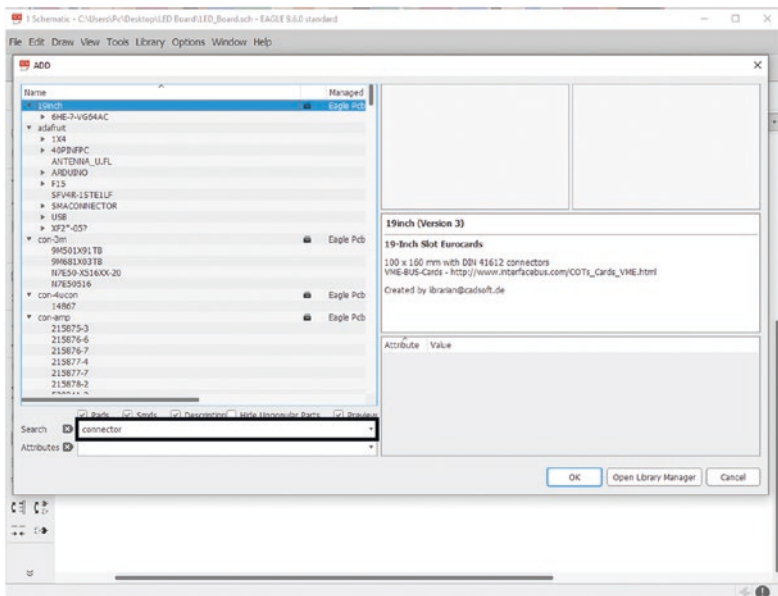

Figure 5-35. Search connector
22. In the search bar, type in “connector” and press enter. See Figure 5-35.